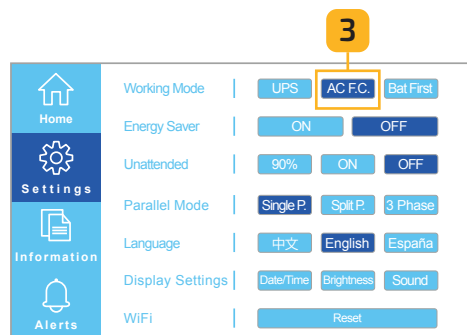

Fig. 6.12 Select AC F.C. button
3. From the Settings menu, select the **AC F.C.** button (Fig. 6.12).